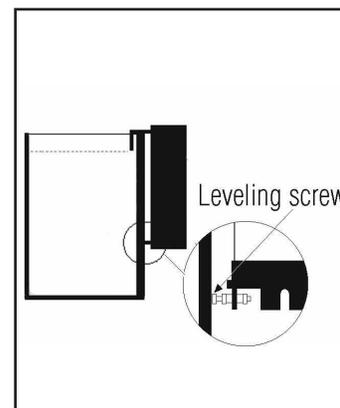

Figure 1
**1a. Water input and output** The input and output locations depend on where the user positions the short pipe adaptor (G). See diagram 5. Normally the output is located over the hanger so that it can flow directly into the sump or aquarium. Diagram 2 shows a set up where the opposite arrangement would be used. **Do not restrict flow out of the exit pipe. There should be no long run of hose on the output that could collect water and block free flow. The outflow must flow downward.** See diagrams. The supplied short length of 1/2” hose (J) used with connector (I) and a soft 90 (C) extends the connection over the rim of the aquarium or sump. To extend the reach of the outlet, a length of 1/2” I.D. hose can be used, but **it should be as short as possible and run straight so that water cannot collect in the line.** Diagrams 1-3 give suggested installation options.
**2. Locating the reactor** The KW Reactor 300 can be seated upright inside the filter sump, hanging on the side of the sump, on the side of the reservoir, or the rear of an aquarium. For hanging installations, use the screw provided in the base plate to level it against the aquarium or sump wall, Figure 1. The reactor must be upright and level to operate properly. The reactor outlet must be higher than the sump or aquarium where the kalkwasser is being sent. Typically the outlet is hung over the sump.